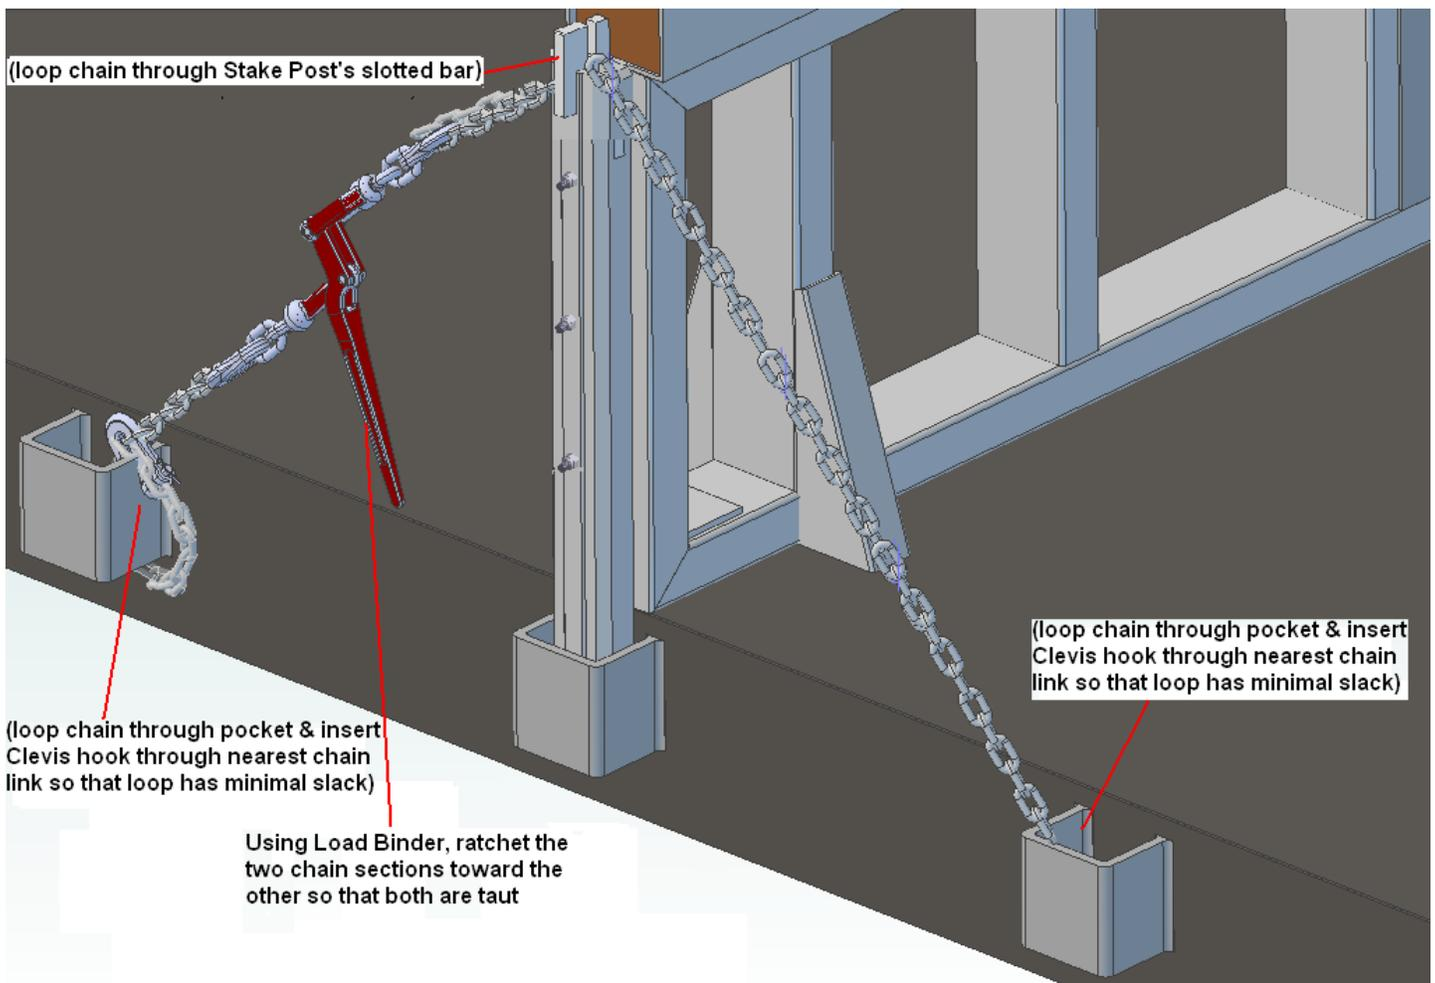

Figure 8: Illustrated view of 5/16" chain looped through slotted bar & side rail pocket, hooked at all ends & slack minimized
9) While you remain on the lower deck platform, repeat Steps (1) through (8) above for each additional Load Leveler, as-required. Once all other Load Levelers have been placed per this process, you may return to the ground level.
15) Similar to Step (11), wrap the remaining segment of the hooked-end chain around the segment hooked to the Load Binder, circling several times and inserting the Clevis hook's end into the nearest chain link available on the Binder-hooked segment. The results of Steps (10) through (15) here should look similar to that illustrated in Figure 8: